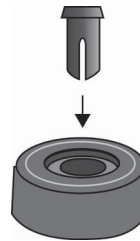

Figure 13. Inserting the Rivet Housing into the Bumper Foot
3. Inset a rivet housing into a bumper foot shown in Figure 13.